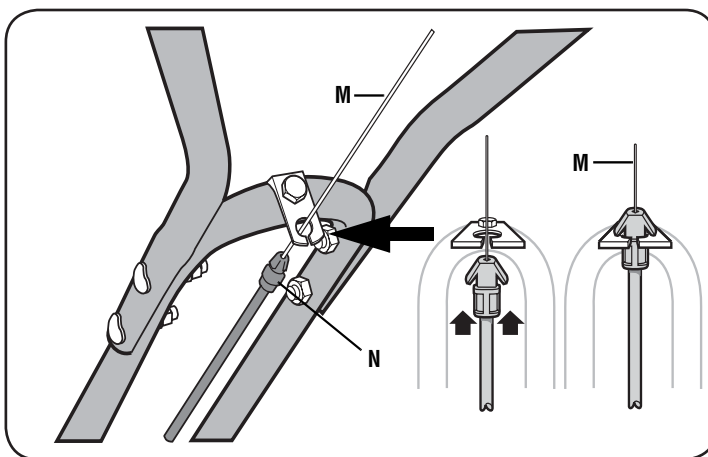

Fig. 2-4: Installing forward clutch cable bracket and cable.
1. Carefully unwrap the forward clutch cable (cable without an attached knob) from its shipping position and slide the thin cable wire (M, Fig. 2-4) into the slot in the cable bracket. Push the cable connector (N, Fig. 2-4) up through the hole in the bracket until the groove in the connector snaps into place.